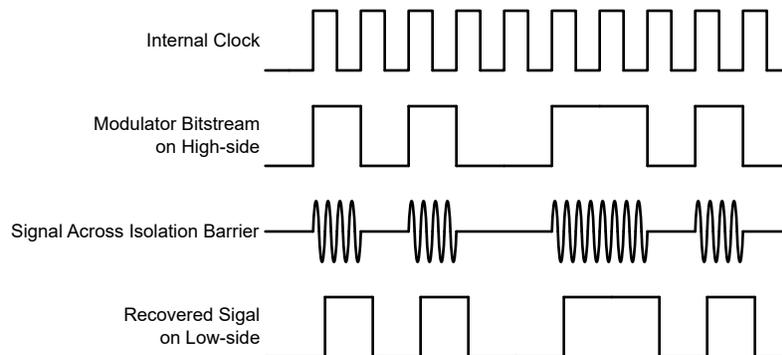

Figure 7-1. OOK-Based Modulation Scheme
As shown in Figure 7-1, the AMC0x30D uses an on-off keying (OOK) modulation scheme to transmit the modulator output bitstream across the SiO₂-based isolation barrier. The transmit driver (TX) is illustrated in the Functional Block Diagram. TX transmits an internally generated, high-frequency carrier across the isolation barrier to represent a digital one. However, TX does not send a signal to represent a digital zero. The nominal frequency of the carrier used inside the AMC0x30D is 480MHz.